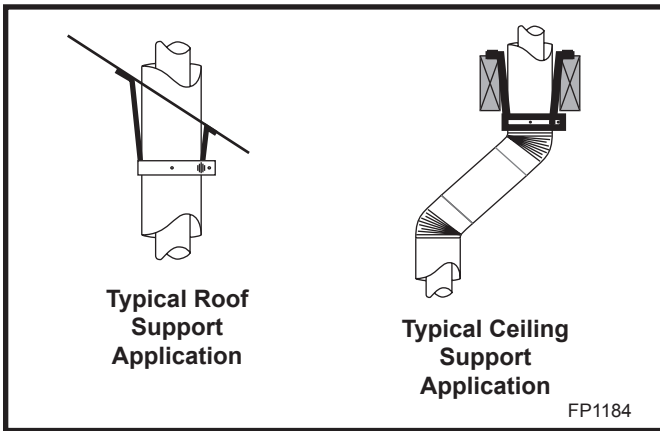
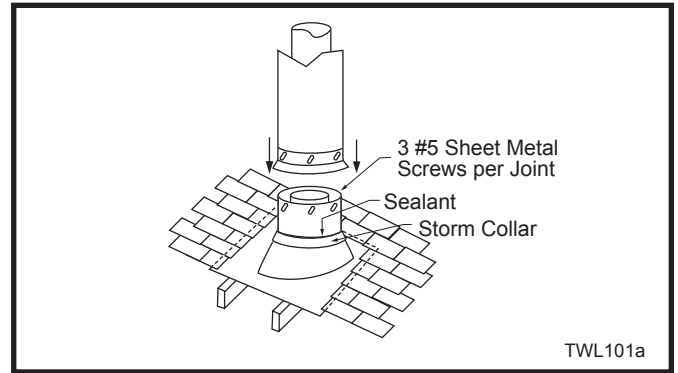

Fig. 42 Venting supports.
Fig. 44 Roof flashing.
- 7DVCS supports offsets. (Fig. 42) This application will require that you first determine the roof pitch and use the appropriate starter kit. (Refer to Venting Components List)
7. Install roof support (Fig. 42) and roof flashing making sure upper flange is below the shingles. (Fig. 44)
8. Install appropriate pipe sections until the venting is above the flashing. (Fig. 44)